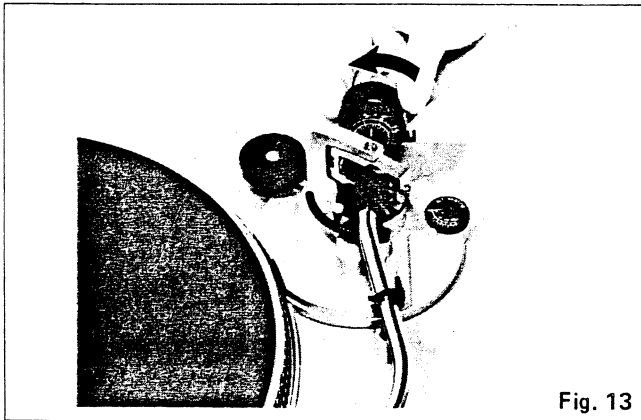

Fig. 13
6. After adjusting the horizontal zero (0) balance, turn the balance weight clockwise in the direction of the arrow and align to the correct stylus pressure. (See Fig. 13.) (Follow the cartridge manufacturer's recommendation.) As the stylus-pressure ring moves in step with the balance weight proper stylus pressure can be selected by directly reading the graduated ring.